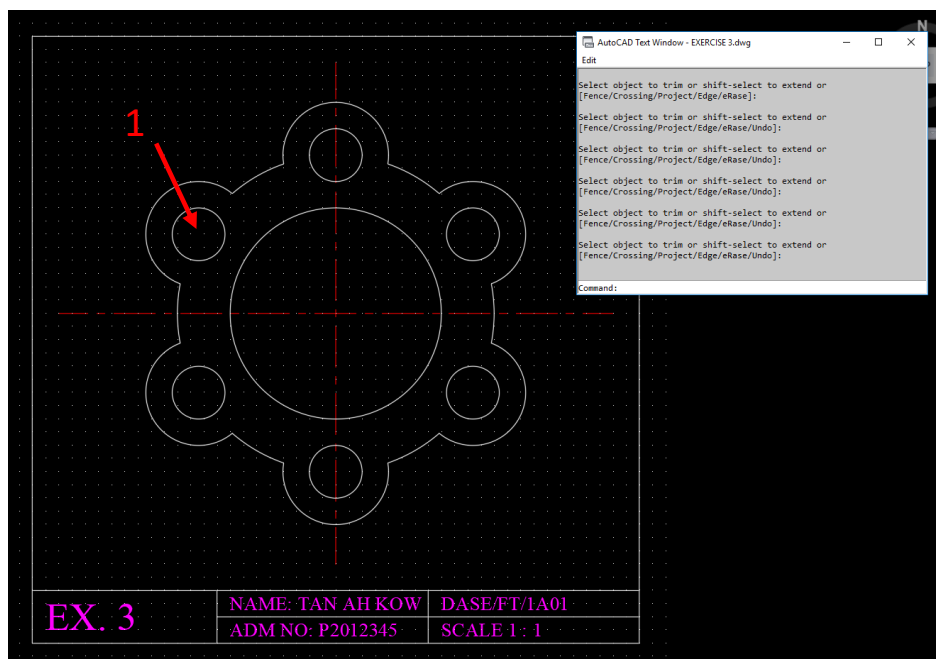

Fig 30
- xxviii. Next, press **enter** and then select object to trim = **Click on those unwanted portions** to be removed and final drawing is shown in Fig 30. E.g. One of the unwanted portion has been trimmed (**1**)